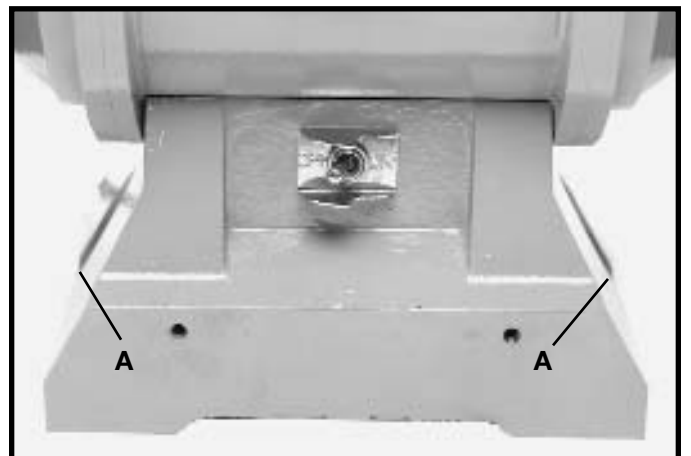

Fig. 9
**IF DURING OPERATION THERE IS ANY TENDENCY FOR THE GRINDER TO TIP OVER, SLIDE OR "WALK" THE GRINDER MUST BE SECURED TO A SUPPORTING SURFACE, SUCH AS A WORK BENCH, THROUGH THE HOLES (A) FIG. 9, IN THE GRINDER BASE.**